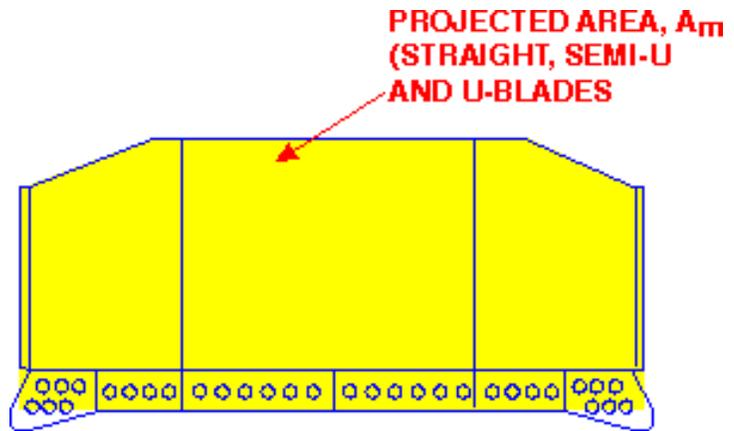

FIG. 2 - BLADE PROJECTED AREA
4.1.1 Blade Projected Area ( $A_m$ , Fig. 2)- Blade area in square meters, exclusive of the end bit extensions, projected on a vertical plane parallel to the width of the blade. The blade is located in the mid-pitch position with the cutting edge at ground line.